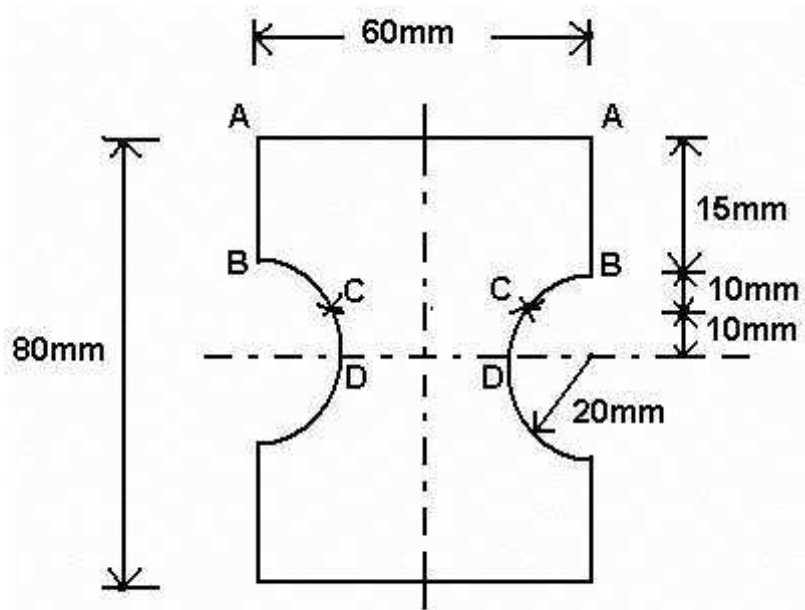

Figure 4
4. For a section shown in figure4. determine the average shearing stresses at A, B, C and D for a shearing force of 23kN. Also sketch the shear stress distribution across the section. [16]